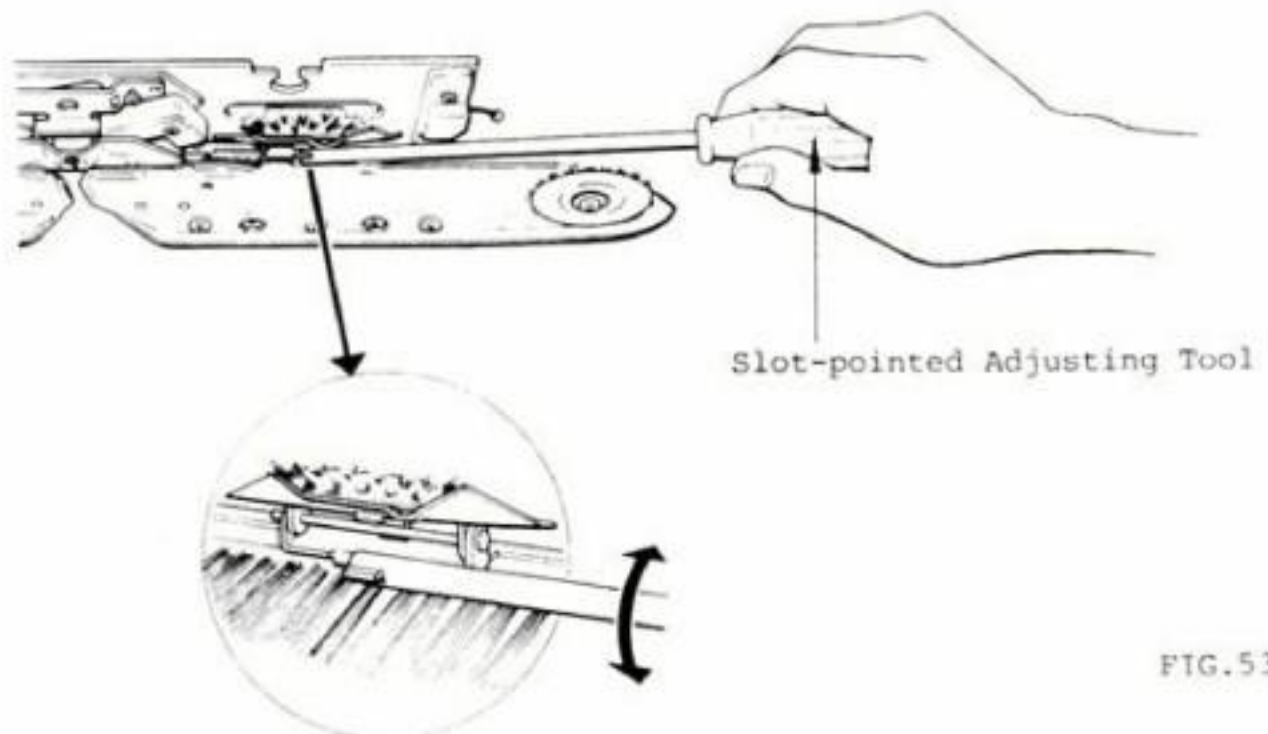

FIG.53
Adjust the position of Weaving Brush by bending the tip (A) of Brush Holder upward or downward using Slot-pointed Adjusting Tool or Pliers as shown in Figure 53.